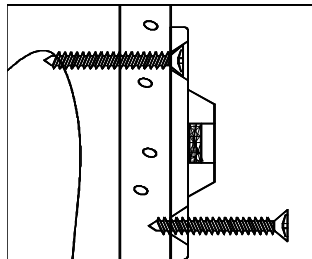

Figure 2
**3) MOUNTING THE WALL-SIDE BRACKET:** Position the wall-side bracket along the selected stud mark so that it will be adjacent the furniture-side bracket when the furniture item is moved to its final position. The wall-side bracket should be about ONE inch lower than the furniture-side bracket (See Figure 3). Use the TWO Long screws to secure the wall-side bracket to the wall. Remember to position the wall-side bracket vertically so that both screws will engage the selected wall stud (See Figure 2).